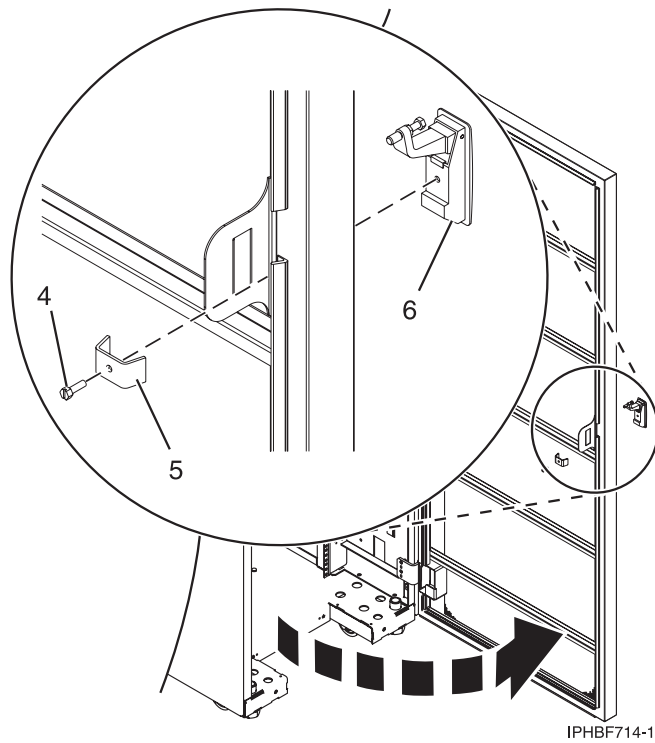

Figure 98. Removing the existing door latch
- b. On the inside of the door, remove the screw (4) in Figure 98, that secures the lock to the rack door.
- c. Remove the bracket (5).
- d. From the outside of the door, remove the door latch (6).
- a. Insert the keyed rack lock into the latch slot on the front of the door (6) in Figure 98.
- b. Secure the lock by attaching the lock bracket (5) with the screw (4), on the inside of the door.